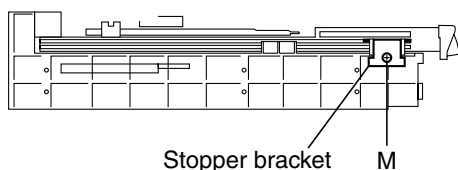

Fig.20
■ Replacing the CD tray rotor belt of the CD changer, and removing the motor (See Fig.20 and 21)